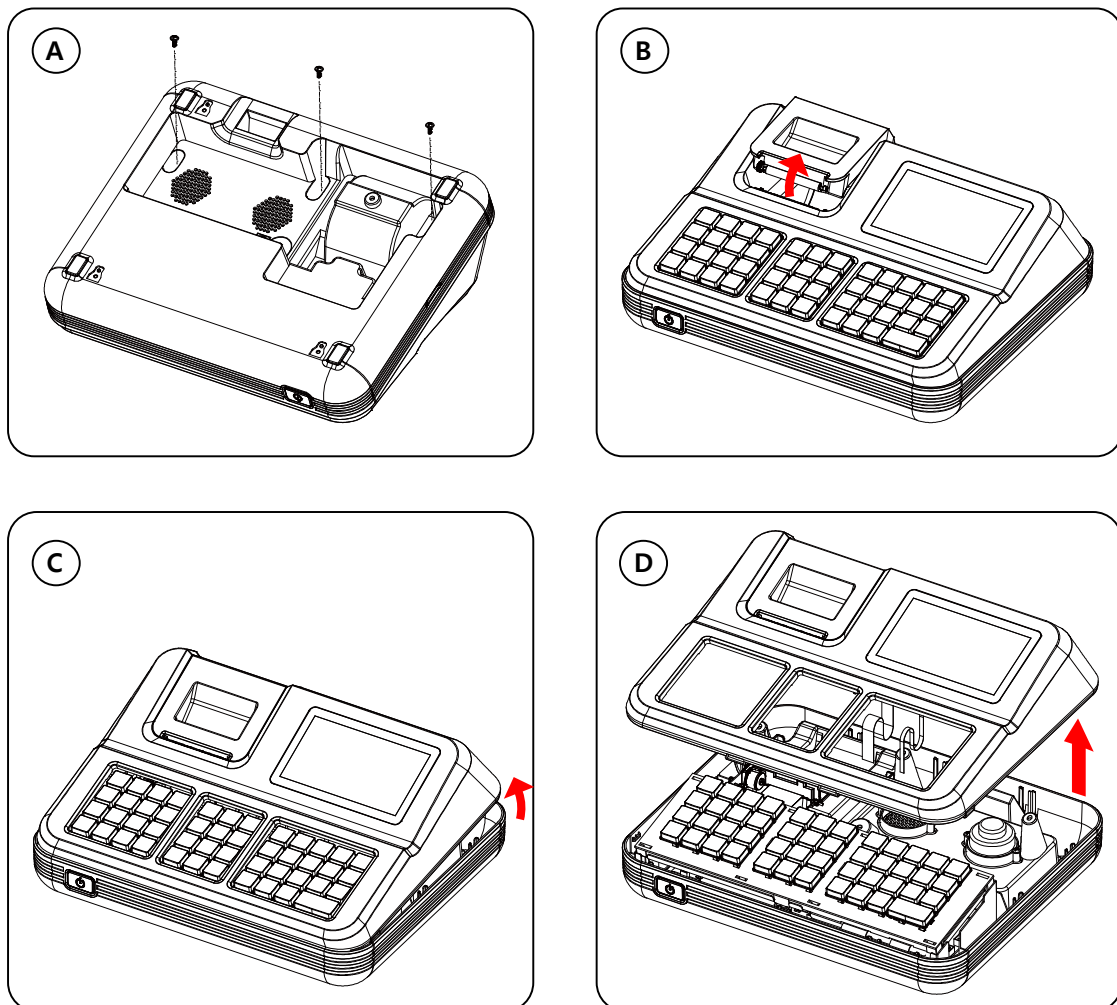

Figure 4-1 Separating the ASS'Y CASE UPPER
1. Remove the three screws(10) from the ASS'Y CASE LOWER.(FIG 4-1(A))
2. Open the COVER PRINTER to unlock it. (FIG 4-1(B))
(FIG 4-1(C),(D))